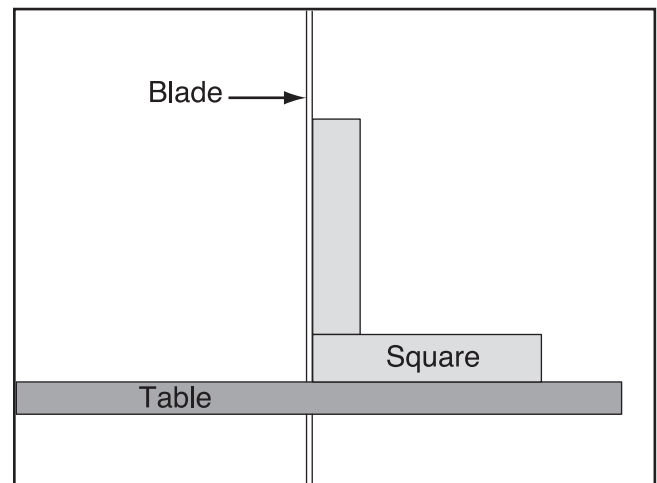

Figure 25. Squaring table to blade.
4. Raise the guide post and place a machinist's square on the table next to the side of the blade, as illustrated in **Figure 25**. Adjust the table square with the blade, then secure with the table tilt knobs.